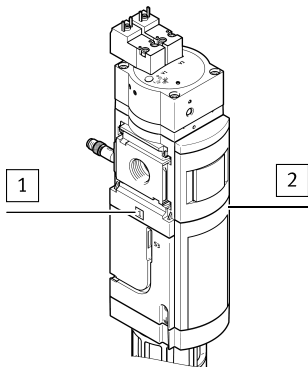

Fig. 8 Flow direction
- Observe the direction of flow from port 1 to port 2. Items 1 and 2 on the housing → Fig.8 are provided for orientation.